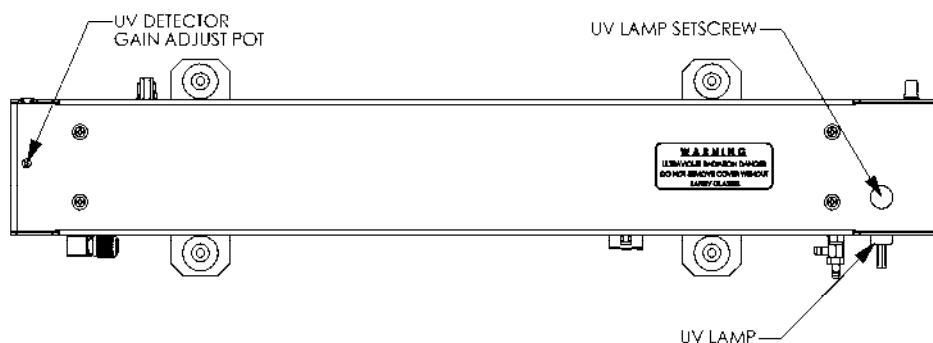

Figure 12-3: Optical Bench – Lamp Adjustment/ Installation
3. Locate the **UV DETECTOR GAIN ADJUST POT** on the photometer assembly (see Figure 12-3).